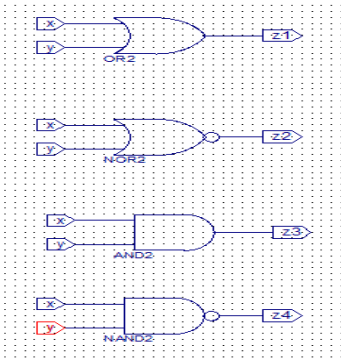

Figure 2: completed schematic
Step 8: It may be beneficial to zoom in closer to the gates that were just placed on the schematic, do this by using the zoom tools at the top of the schematic. Place I/O markers using the I/O tool . Place one marker on the output of each gate and one marker on each of the inputs of the gates. Each I/O marker can be renamed by right-clicking on it. Rename the output of the **OR** gate to z1, the output of the **NOR** gate to z2, the **AND** gate to z3, and the **NAND** gate to z4. Similarly rename one input of each gate to x and the other to y. You will get a warning window when you attempt to name a port with the same name as another. Xilinx will ask if you want to merge the ports. By selecting yes, it is like connecting a wire to the two terminals. Select yes for this lab. Your schematic should look similar to figure 2.